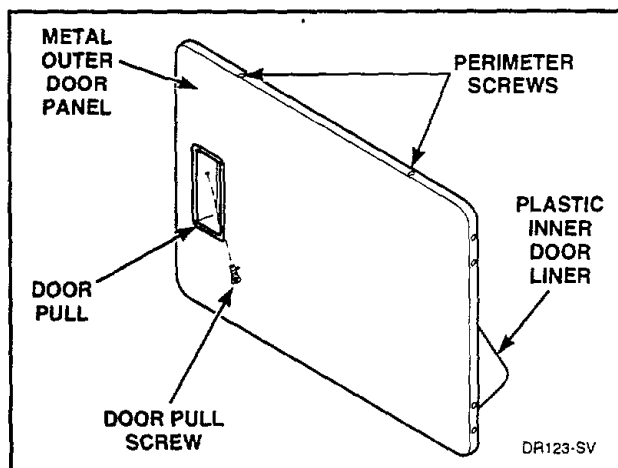

Figure 17
- Remove screw from door pull and the remaining 11 screws around the door perimeter, *Figure 17*. Set hinges aside at this time.
- Remove plastic inner door liner (with the door strike attached) from the metal door panel, *Figure 17*.